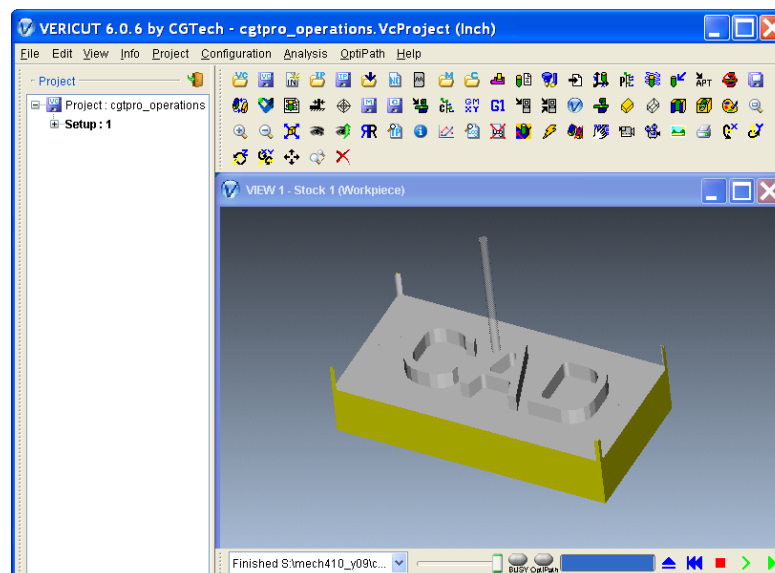

Figure 1.38
8. View tool path. Menu Manager → NC Sequence → Play path → NC Check. The cutting path is shown in Figure 1.38.